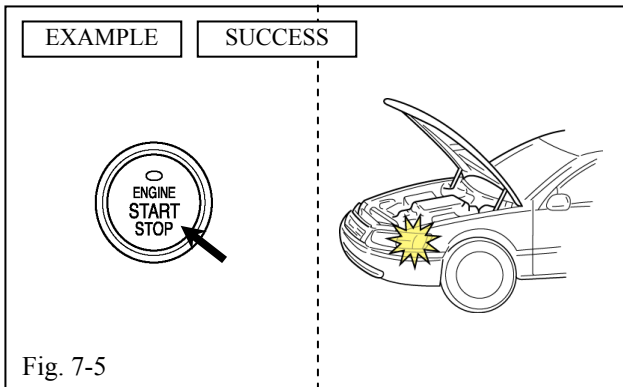

Fig. 7-5
- (h) Start the Engine, after 10 seconds stop the engine. (Fig. 7-5)
- (i) The Hazard Lights flash once. (Fig. 7-5)